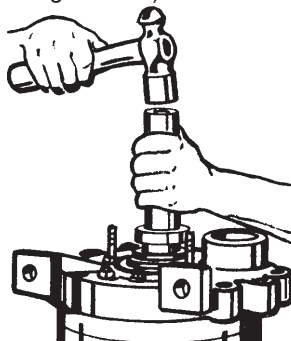

Figure 4-14
25. Install the seal cup with the smooth face of the seal towards the rotating element. Slide the cup down the shaft; using a short length of pipe, gently tap the cup down until it contacts the ring. (refer to figure 4-14)